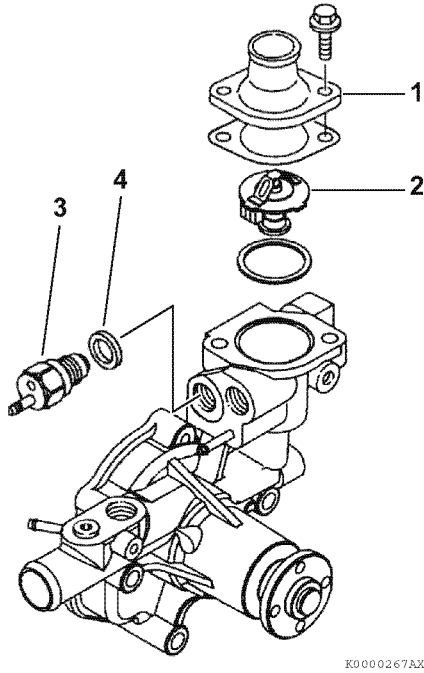

**Figure 8-7**
6. Remove the engine coolant fan guard (if equipped), engine coolant fan (**Figure 8-7, (1)**), spacer (**Figure 8-7, (2)**) and engine coolant pump V-pulley (**Figure 8-7, (3)**).
8. Remove the engine coolant pump (**Figure 8-7, (4)**). Discard the gasket.